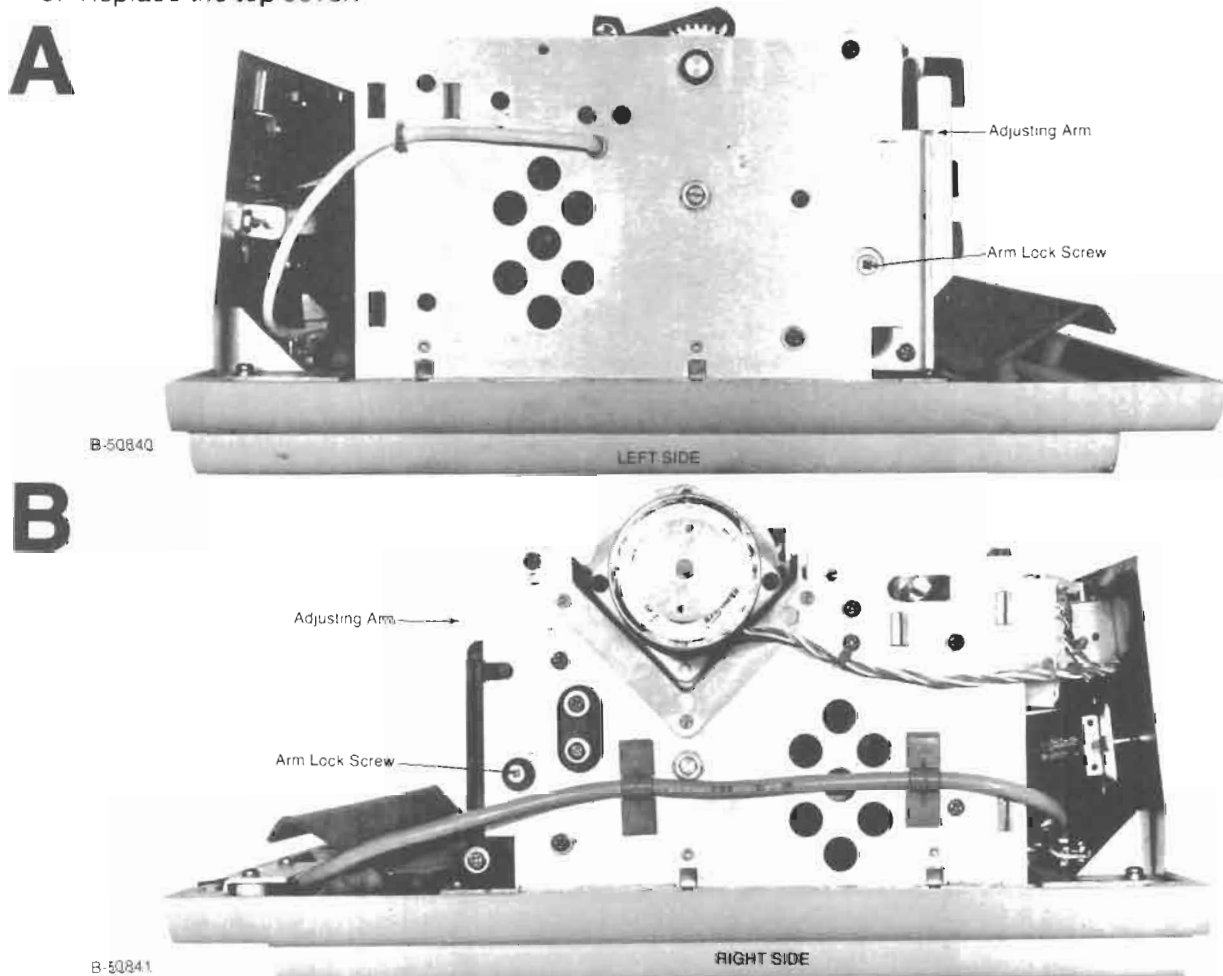

Figure 5-17. Carrier Vertical Adjustment
2. Loosen the adjusting arm lock screw on either side of the printer (see Figure 5-17).
6. If the bottom of the character is darker, move the adjusting arms in, towards the platen (see Figure 5-17).